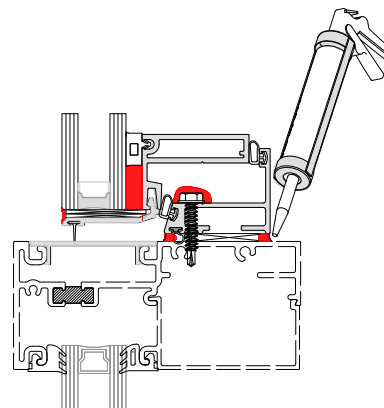

FIG. 5
- Apply Interior seal around the frame and tool. See **FIG. 5**
- Open sash and apply Exterior seal at the sill and 3" up the jambs only. See **FIG. 5**